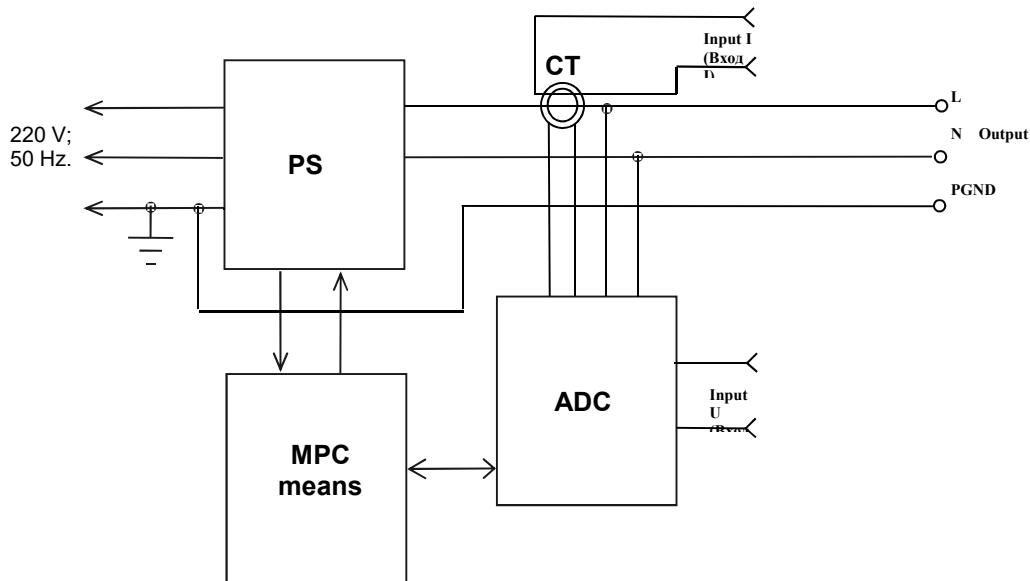

Figure 1 The functional chart of the oscillator IGU 16.1
4.1 The functional chart of the test oscillator IGU 16.1 is shown in Figure 1.